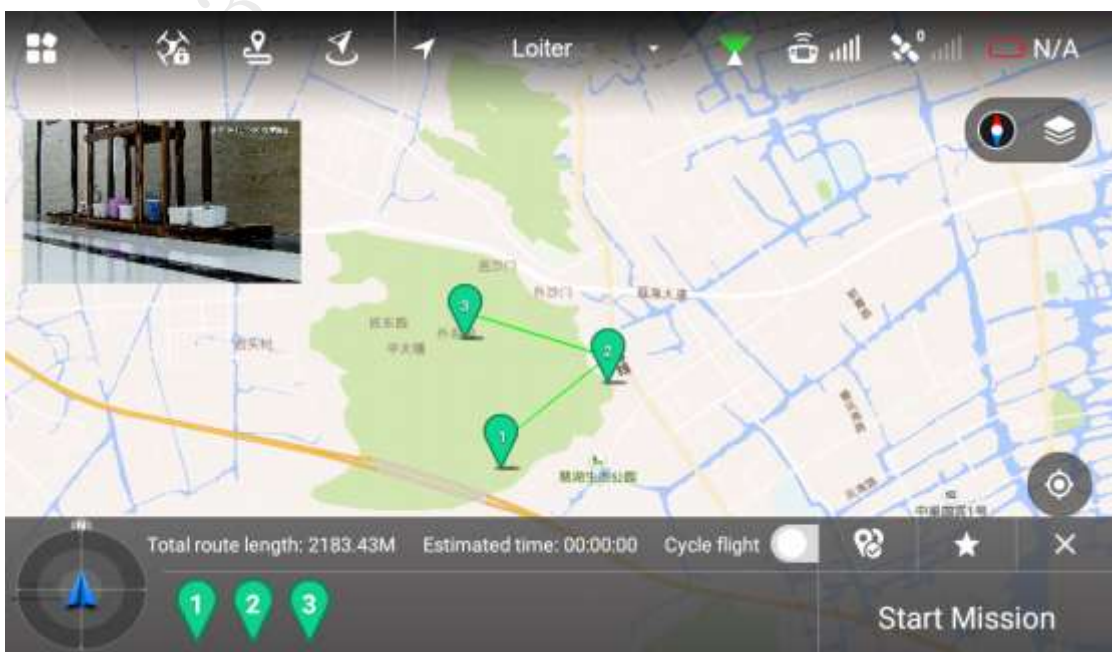

Figure 4-16
Step 1 Select "Waypoints" and enter the interface of waypoint flight, as shown in Figure 4-16.